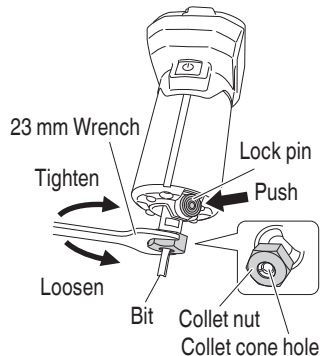

Fig. 9
- (1) Remove the base ass'y from the body.
- (2) Deeply inset the bit into the collet cone hole. (The distance is 15 mm or more from side of collet nut.)
- (3) With the bit inserted and pressing the lock pin holding the shaft, use the 23 mm wrench to firmly tighten the collet nut in a clockwise direction (viewed from under the tool). (Fig. 9)